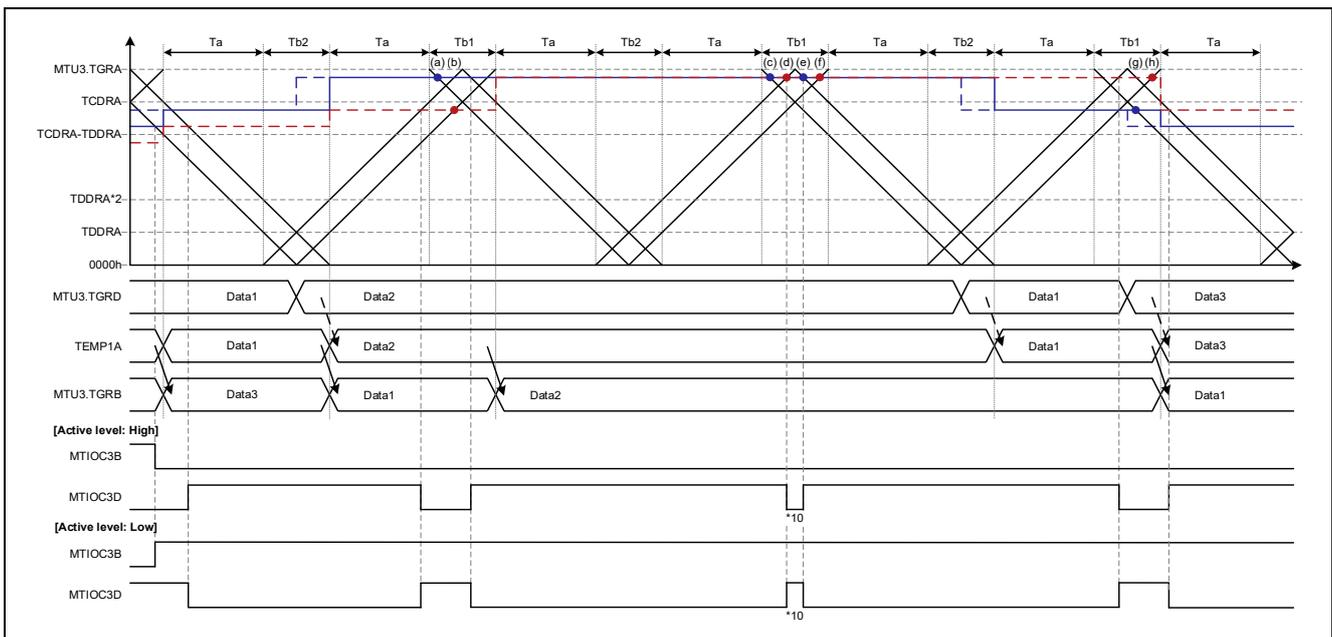

**Figure 1.59 Complementary PWM Mode 2 Operation Example
- [Operation example 2] Figure 1.59, Complementary PWM Mode 2, Output Start: Trough, Ta Interval Overwrite, cautions 6 and 10
Figure 1.59 shows an operation example of buffer overwrite in the Ta interval in complementary PWM mode 2. Except for the difference in the buffer overwrite timing, the operation is the same as that shown in Figure 1.58.